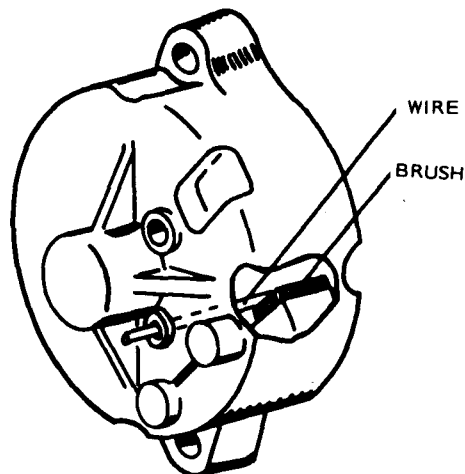

FIGURE 61
8. Insert two brushes and springs in their brush holders and push them against spring tension. Secure the brushes by iron wires as shown in Figure 61.